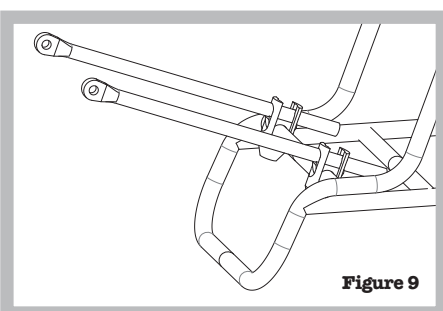

Figure 9
9. Figure 9 shows how the tube blocks and sliders should be assembled. Tighten the set screws just enough to keep the assembly together while installing the rack onto the frame, but loose enough to allow adjustment.